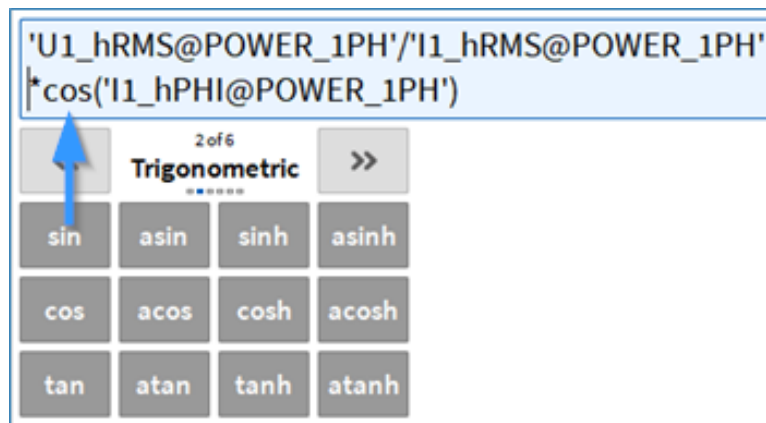

Fig. 7.72: Trigonometric operators in combination with array channels
- Trigonometric operators (see Fig. 7.72)